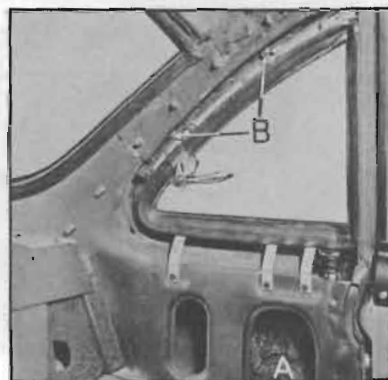

Figure 13-42—Rear Quarter Ventilator Inside Area
2. Above rear quarter ventilator at "B," inside the body, remove the two barrel nuts and washers securing the header molding. See figure 13-42.